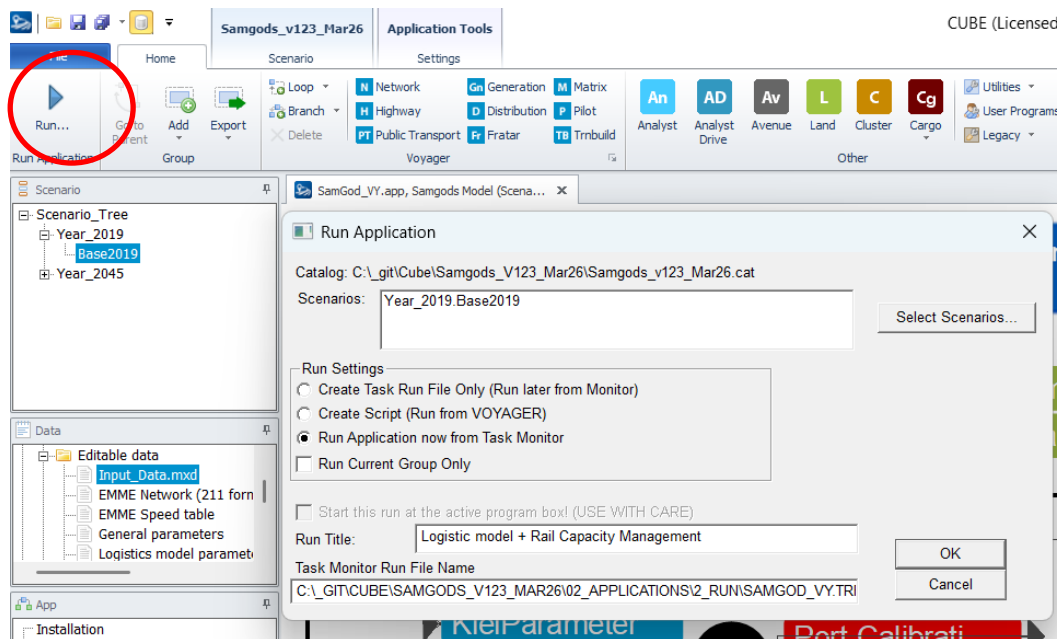

Figure 98 Restart from failure
- 4) In pop-up menu "Run Application", select "Run Application now from Task Monitor' and tick "Run Current Group Only", see settings in Figure 98.